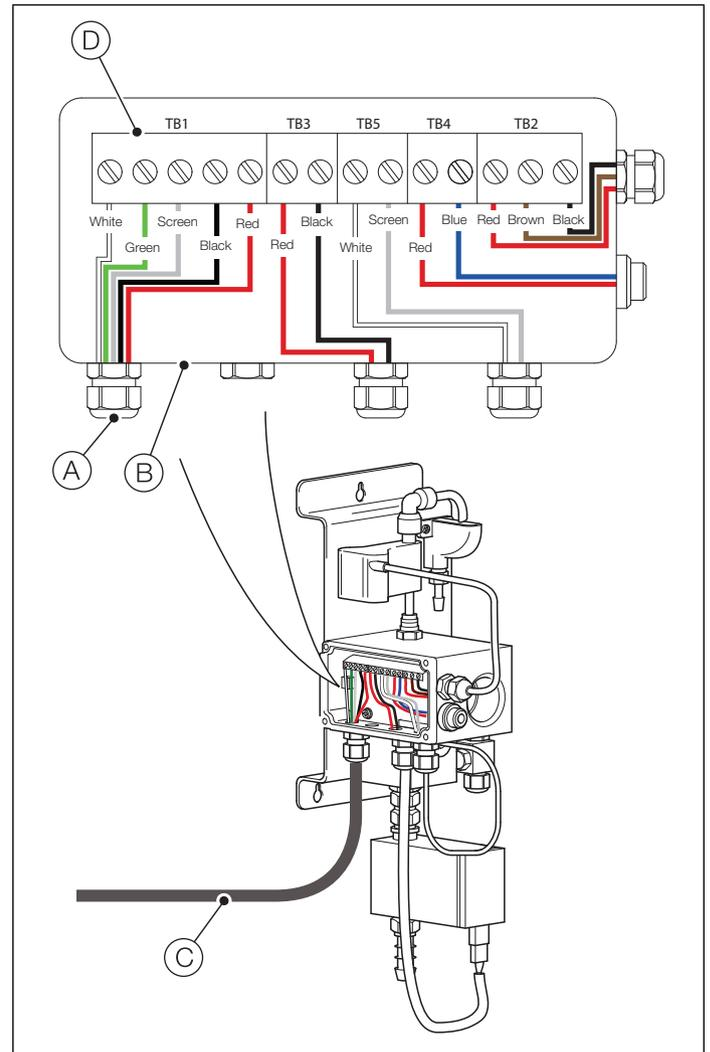
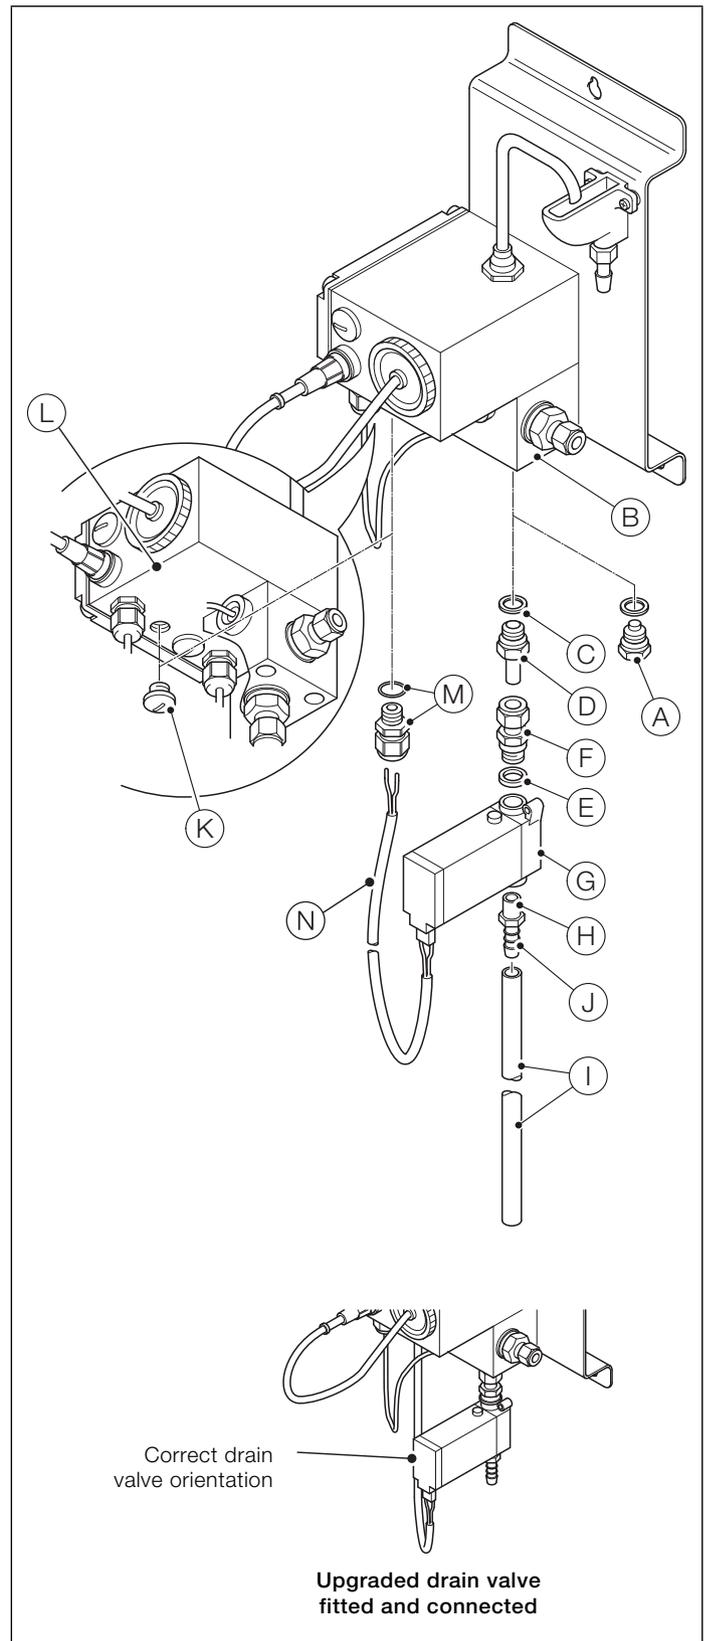

Fig. 6.7 Replacing the Modbus cable assembly
Fig. 7.2 Upgrading the drain valve assembly
1. Depress manual override button (A) on the drain valve assembly to drain the flowcell.
3. Loosen cable gland (B) at the flowcell PCB housing (C).
4. Disconnect flowmeter cable (D) from wet-section PCB terminals TB2 – see Fig. 6.7, page 7 and remove cable.
5. Depress the QD coupling collar (E) on QD coupling (F) and lift the top QD coupling (F) complete with sample outlet tube (G) away from the flowmeter (H).
6. Depress the QD coupling collar (K) on QD coupling (L) and lift the flowmeter away.
7. Fit the replacement flowmeter into the QD coupling (L) and refit QD coupling (F) to the flowmeter outlet.
8. Pass the flowmeter cable through the cable gland (B) at the flowcell PCB housing (C) and terminal connections to PCB terminals TB2 – Fig. 6.7, page 7.
9. Tighten cable gland (B) and refit the PCB cover as detailed in step 1 of Section 6.1, page 4.
10. Ensure the sample outlet tube (G) is located correctly in the tundish assembly (J).
1. Depress manual override button (A) on drain valve (B) to drain the wet-section.
2. Disconnect clip-on cable connector (C) from the end of the drain valve coil housing by depressing clip (D).
3. Disconnect the drain tube from barbed outlet connector (E) on the bottom of drain valve (B).
4. Lock hex coupling (G) and rotate nut (H) clockwise to release couplings. Remove the valve assembly, complete with coupling (G). Remove coupling (G) from the valve assembly and fit to new valve, complete with new bonded seal (I).
5. If fitting a new drain valve cable assembly, remove the wet-section cover as detailed in step 1 of Section 6.1, page 4, loosen the drain valve cable gland in the wet-section PCB housing and proceed with steps 6, 7 and 8 (below). If using the existing cable, re-connect the clip-on cable connector (C) to the end of the drain valve coil housing.
6. Disconnect the drain valve cable from the terminal block – see Fig. 6.7, page 7 and discard the cable.
Referring to Fig. 6.7:
6. Remove blanking plug (I) from front of flowcell PCB housing (J) and replace with supplied cable gland (and O-ring) (K).
7. Pass flowmeter cable (L) through cable gland (K) at flowcell PCB housing (J) and make connections to PCB terminal block TB2 – refer to Fig. 6.7, page 7.
8. Tighten cable gland (K) to form a watertight seal.
9. Check sample outlet tube (G) is located correctly over tundish assembly (H) and restart sample flow.
Referring to Fig. 7.2:
2. Fit sealing washer (C) to male adaptor coupling (D), screw this assembly into flowcell base (B) and tighten.
3. Fit Boded seal (E) onto thread of male stud coupling (F), screw into the upstream port of the drain solenoid valve (G) and tighten – note arrow position on valve body.
4. Wrap PTFE tape around the thread of barbed connector (H) and screw into the outlet port of the drain solenoid valve (G).
5. Offer drain solenoid valve assembly (G) up to male adaptor coupling (D) and push onto spigot; orientate the valve (as shown in Fig. 7.2) and tighten couplings (D) and (F) together – ensure couplings are fully tightened.
6. Fit the supplied length of drain tube (I) onto the barbed connector (J) on drain valve (G) and route as short and straight as possible to a suitable drain.
7. Remove blanking plug (K) from the underside of flowcell PCB housing (L) and replace with supplied cable gland and O-ring (M).
8. Feed cable (N) from drain solenoid valve assembly (G) through the cable gland (M) and make connections to PCB terminal block TB3 – refer to Fig. 6.7, page 7.
9. Tighten cable gland (M) to form a watertight seal.